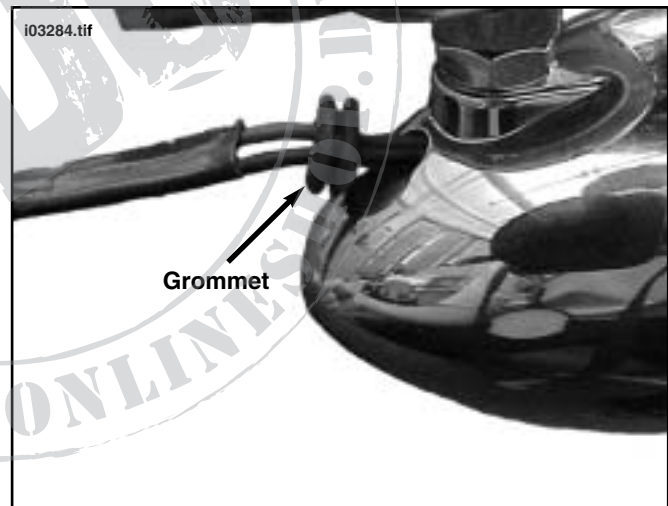

Figure 8. Install Grommet From Kit
4. See Figure 8. Thread new grommet (P/N 11443) from kit onto directional wire harness and move into position shown. Install grommet into directional housing. It may be helpful to apply water to ease installation.